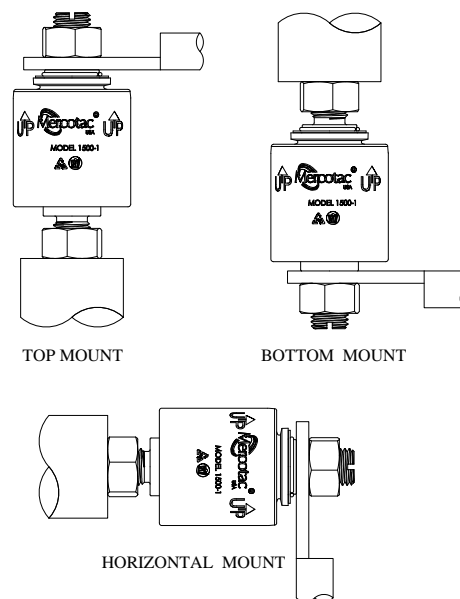

Fig 2 Mounting Examples
2. The connector can be held or mounted by the body or lower threaded stud in vertical applications above the rotating element, or by the upper threaded stud when mounted below. In horizontal applications mount the connector with the body rotating to reduce mechanical loads on the bearing and internal components. One end should be allowed to float, attached only by the connecting wire. **Never rigid mount both ends of the connector. This will cause connector failure.** Limit mounting eccentricity to .005" (.13mm). <Fig. 2>